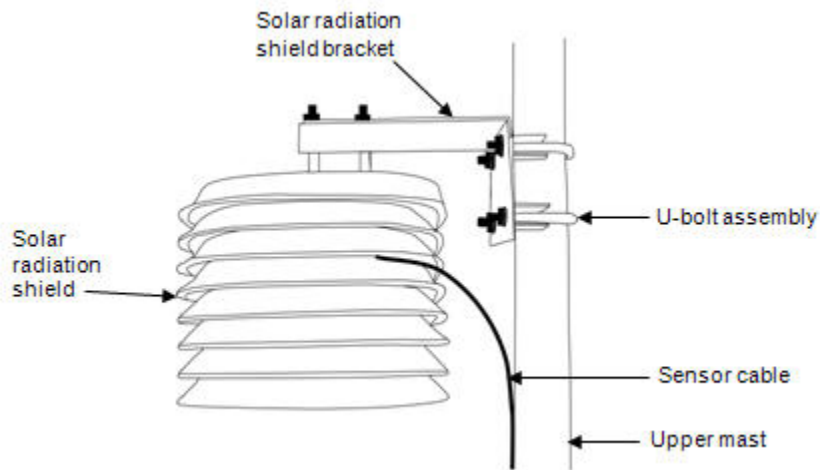

Figure 3: Mounting Solar Radiation Shield
1. Mount the white solar radiation shield assembly onto the upper mast using the two U-bolts provided (see Figure 3).
3. Feed the cable out through the third and fourth shield plates (see Figure 3).